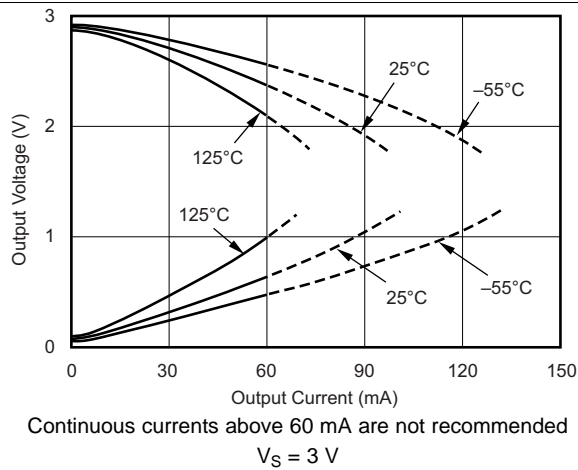
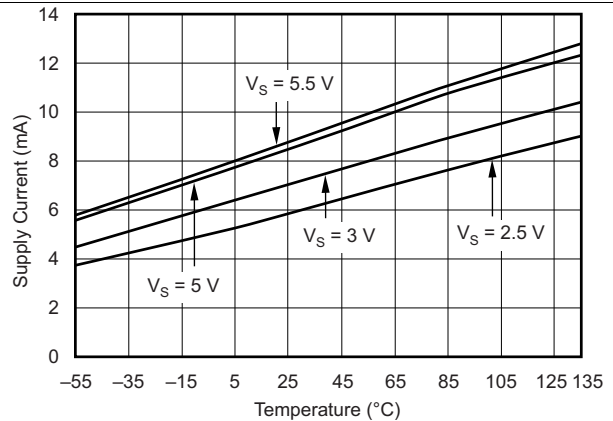
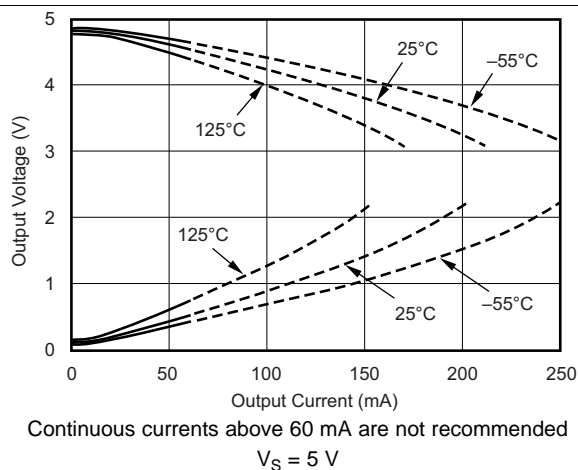

Figure 21. Output Voltage Swing vs Output Current
Figure 22. Supply Current vs Temperature
Figure 23. Output Voltage Swing vs Output Current
(1) See the *Output Voltage Swing vs Output Current* (Figure 21 and Figure 23) in the *Typical Characteristics* section.
(2) Logic LOW and HIGH levels are CMOS logic compatible. They are referenced to  $V_-$ .
Running a continuous DC current in excess of  $\pm 60$  mA is not recommended. See the *Output Voltage Swing vs Output Current* graphs (Figure 21 and Figure 22) in the Typical Characteristics section.